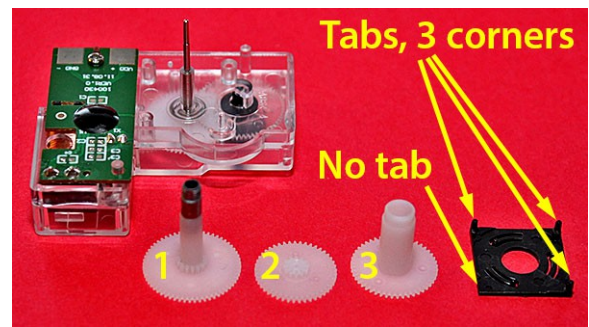

Fig. 47: Gears ready to assemble.
- ☐ Lay the movement, the three loose gears, and the square black gear retainer on your table, as shown in Fig. 47. Notice that the retainer has tabs on three corners, but not on the fourth corner. This is important in the final reassembly step.